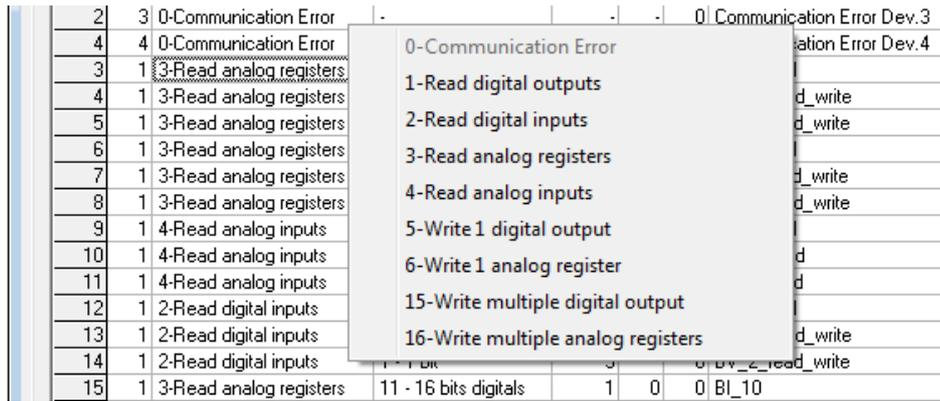

Figure 7.2 Select value
2. A contextual menu with the possible values will show up (Figure 7.2). Select the desired value.